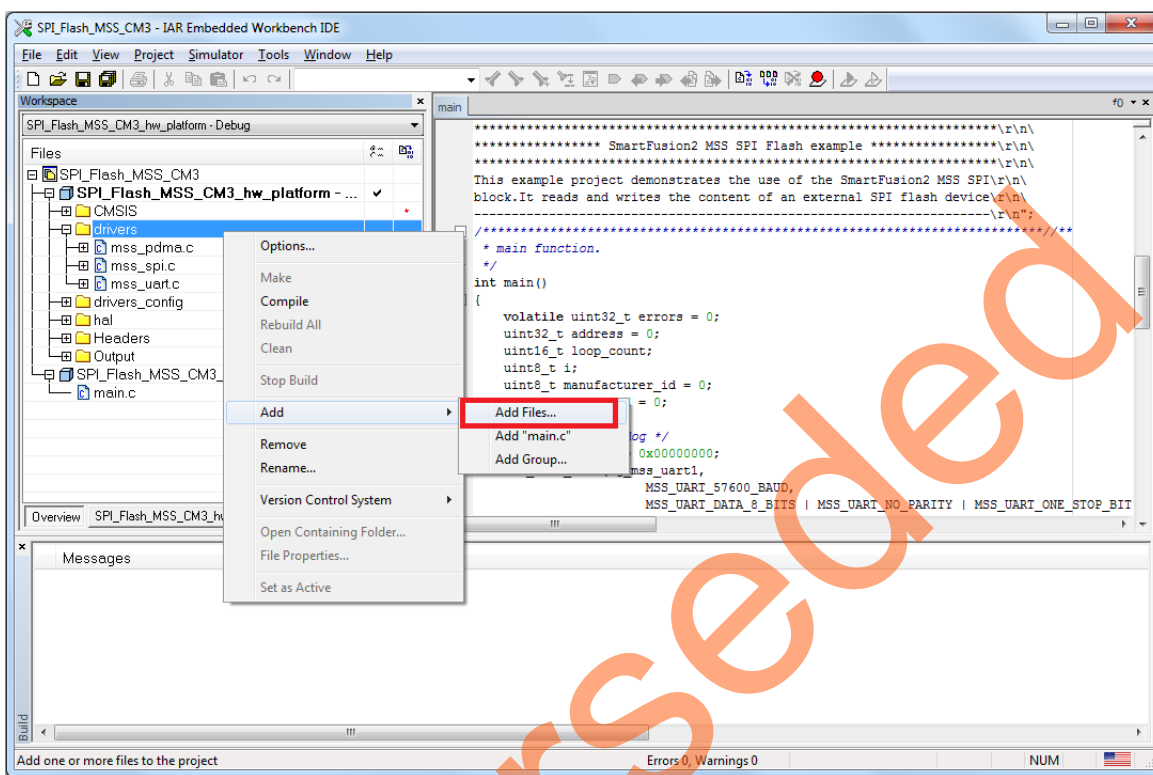

Figure 23 • IAR Workspace Window - Add at25df641 SPI Driver Files
7. Right-click and add the driver files (at25df641.c and at25df641.h) to the SPI_Flash_MSS_CM3_hw_platform project in the IAR workspace as shown in Figure 23.